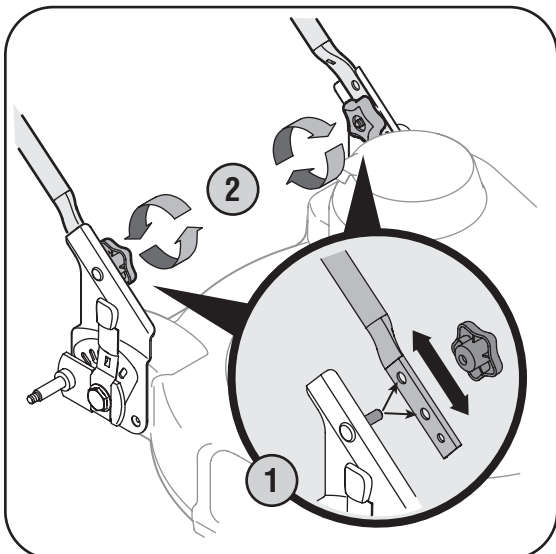

Figure 3-4: Attach the lower handle to the brackets on deck.
1. Place the lower handle over the handle bracket assemblies and position each bracket stud into the top or bottom hole, Figure 3-4.
2. Secure with the star knobs, Figure 3-4. Each side of the lower handle must be positioned onto the stud at the same position.